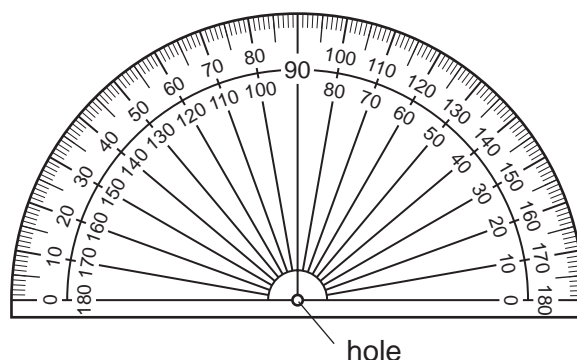

Fig. 3.1
- (vii) a protractor with a hole just sufficient to pass the long pin through, as shown in Fig. 3.1.